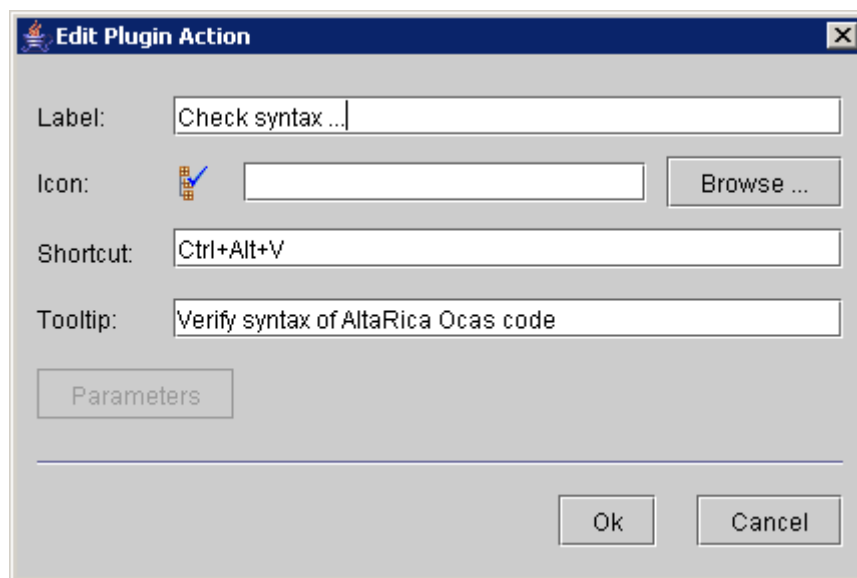

Figure 196 : Edit a plugin action
- ◆ Click on the **Edit** button; the following window then appears (Figure 196):